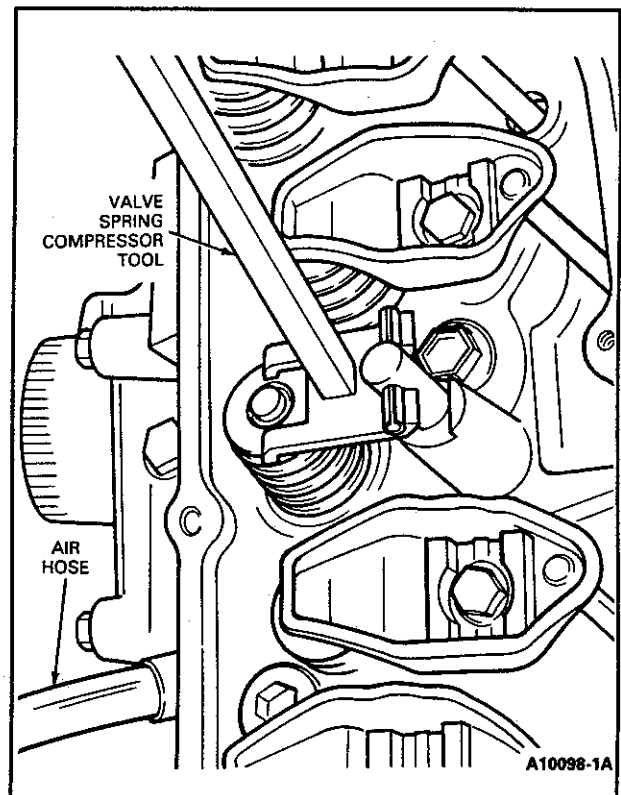

Figure 46 Compressing Valve Spring
5. Install the stud nut and position the compressor tool as shown in Figure 46. Compress the valve spring and remove the retainer locks, spring retainer, sleeve and valve spring.